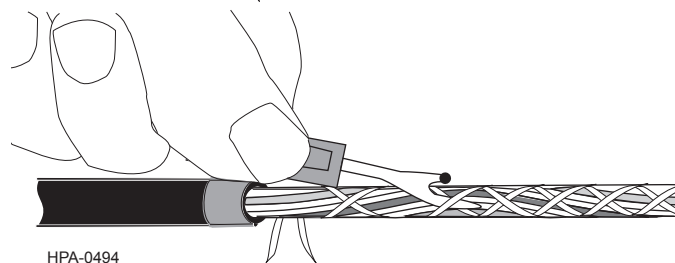

Figure 15
4.11 Use a seam ripper every 2 in (5 cm) to cut the binding tapes that secures the buffer tubes around the dielectric central member (Figure 15).